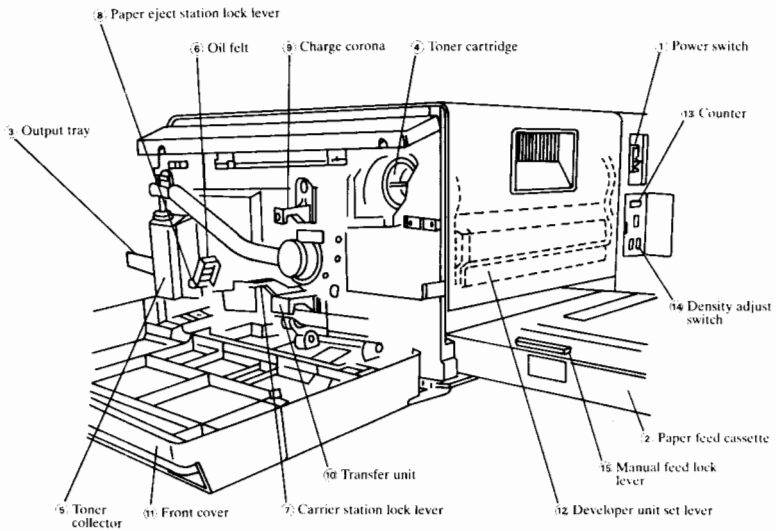

Figure 1.3 Inside the Printer
Lower the carrier station locking lever (figure 1.3 item 7) and pull out the charge corona unit (figure 1.3 item 9) and place it on a level surface.